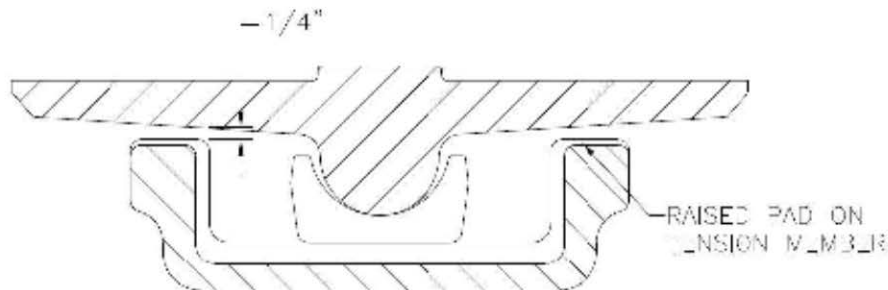

Fig. 3
- 3.a. Inspection of clearance between underside of rocker seat and raised pads on side frame bottom tension member is required. A 1/4" thick feeler must pass thru rocker seat and raised pad on tension member when side frames are in neutral position (side frames are to be perpendicular to top of track rails) see Figure 3. When 1/4" feeler does not pass thru maintenance is required. See Part III, Section A for procedure to restore this clearance.